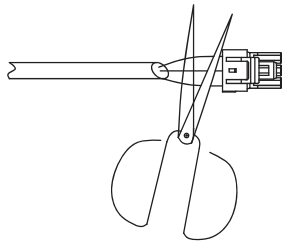

Fig. 16 —Shearing Outdoor Connector
1. Cut the connector on the outdoor unit side as shown in Fig. 16 below.